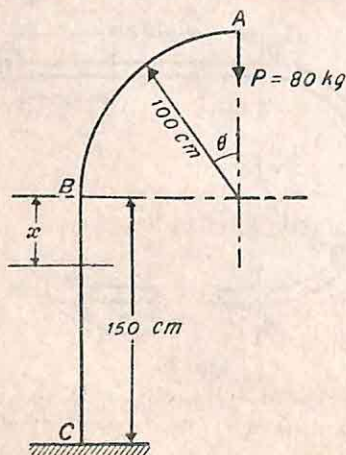

Fig. 40
20. A steel bar 6 cm diameter is bent to the shape shown in Fig. 40 and the lower end is firmly fixed in the ground in a vertical position. A load of 80 kg is applied at the free end. Calculate the vertical deflection of the free end.  $E = 2 \times 10^6 \text{ kg/cm}^2$ . (Lond. Univ.)